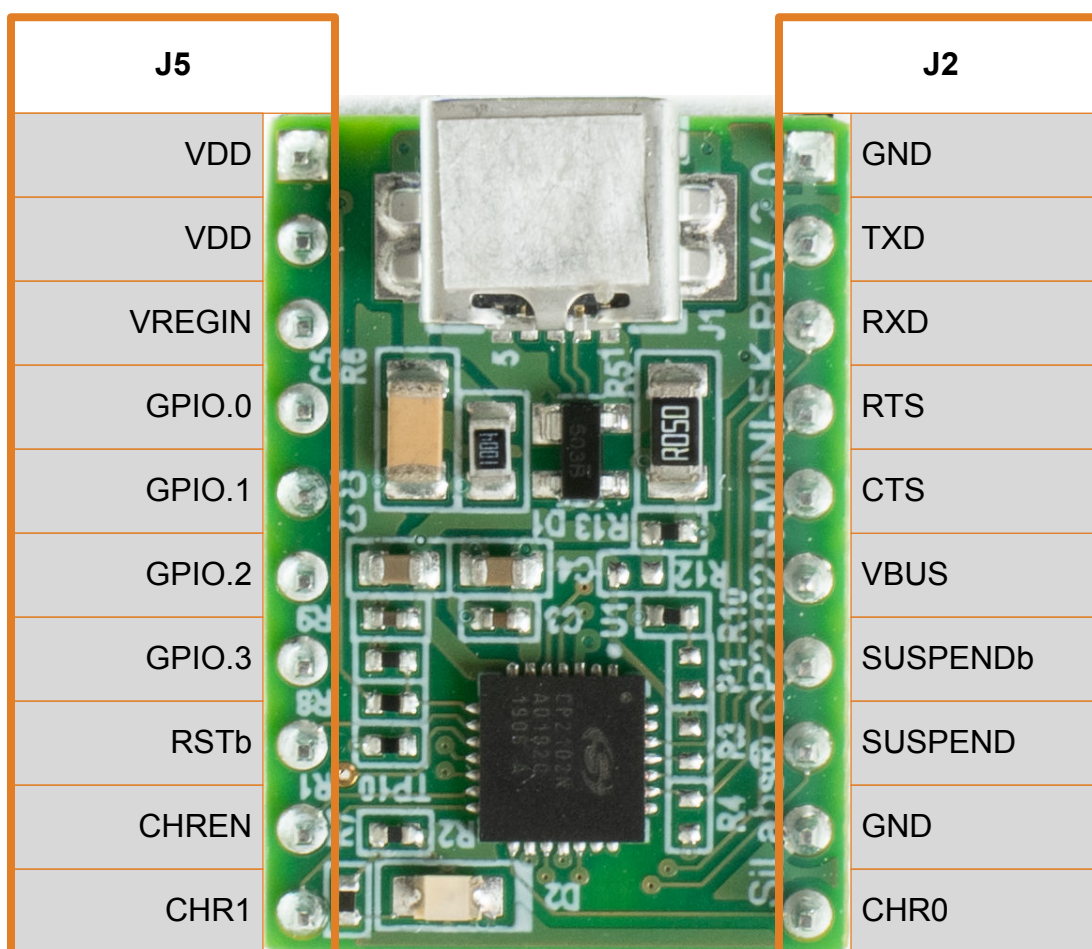

Figure 5.1. CP2102N Mini Evaluation Board
- Corrected error in pinout diagram in Figure 5.1 CP2102N Mini Evaluation Board on page 9.